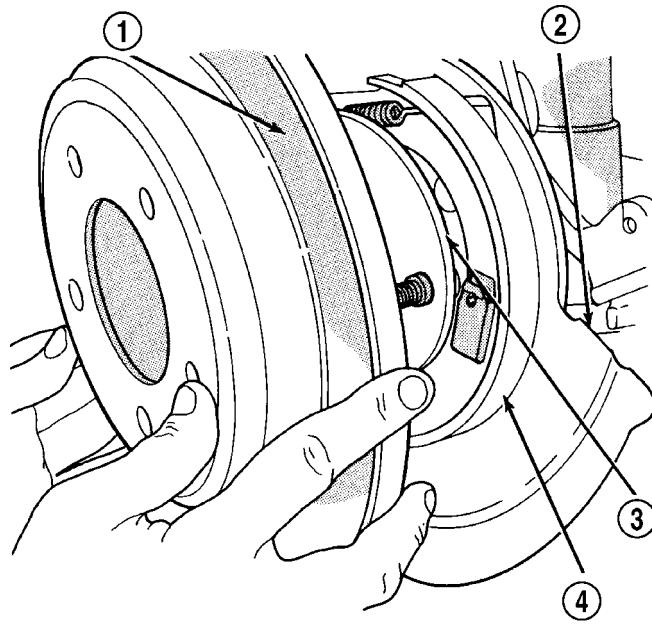

Fig. 94 Rear Rotor Removal/Installation
(1) Remove disc brake caliper and store (hang) it out of the way following the procedure found in Brake Pads/Shoes. (Refer to 5 - BRAKES - BASE/HYDRAULIC/MECHANICAL/BRAKE PADS/SHOES - REMOVAL)
(2) Remove any clips retaining the brake rotor to the wheel mounting studs.
(3) Remove the rear rotor from hub by pulling it straight off the wheel mounting studs (Fig. 94).
(1) Install brake rotor over the wheel mounting studs onto hub (Fig. 94).
(2) Install disc brake caliper and shoes following the procedure found in Brake Pads/Shoes. (Refer to 5 - BRAKES - BASE/HYDRAULIC/MECHANICAL/BRAKE PADS/SHOES - INSTALLATION)
(3) Adjust parking brake shoes as necessary.
(4) Pump the brake pedal several times to ensure the vehicle has a firm brake pedal to adequately stop vehicle.
(5) Check and adjust brake fluid level as necessary.